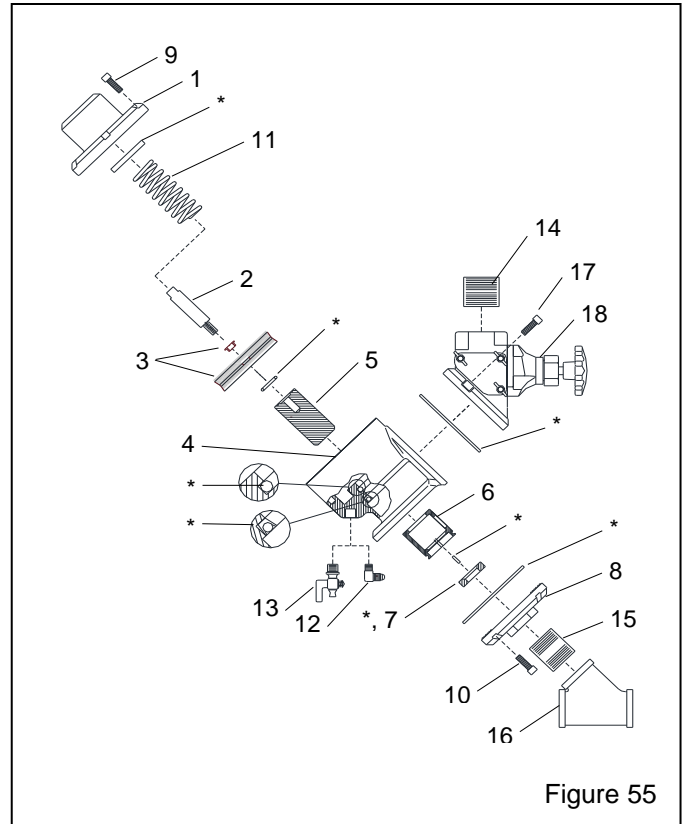

Figure 55
9.5 Auto-Quantum Metering Valve – Figure 55